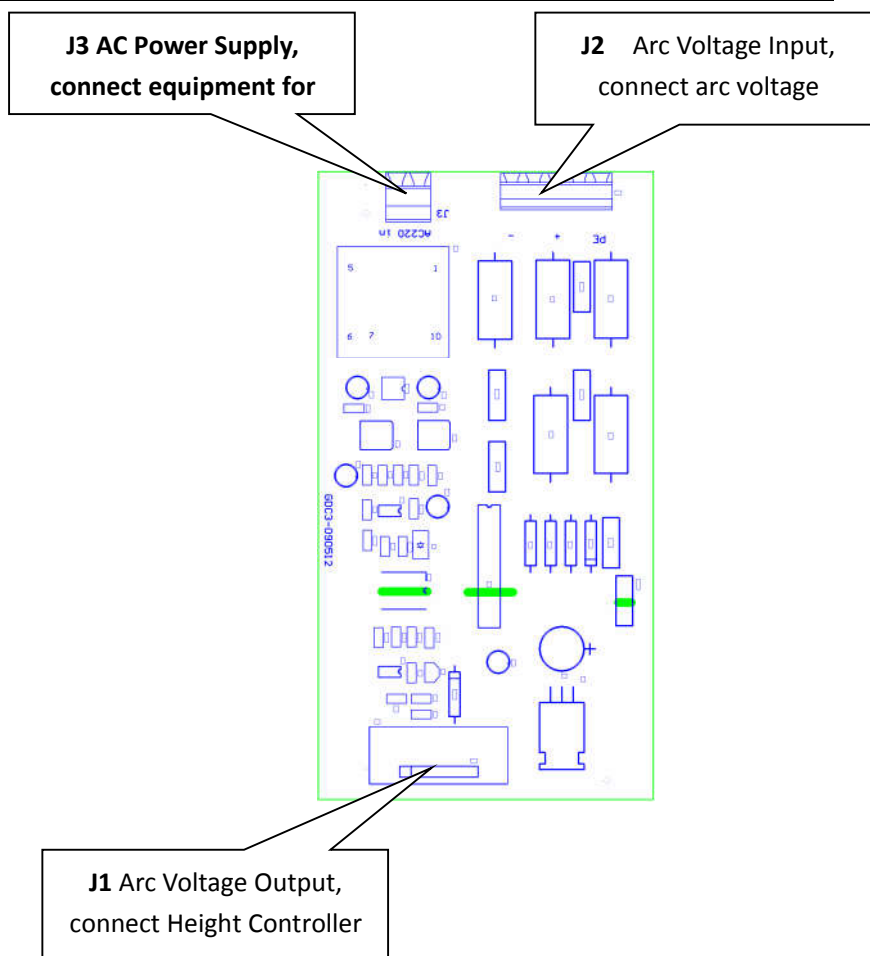

Fig. 3-10 Interface Description of Voltage Dividing Plate
- The description of each interface of voltage dividing plate is shown in Fig. 3-10.